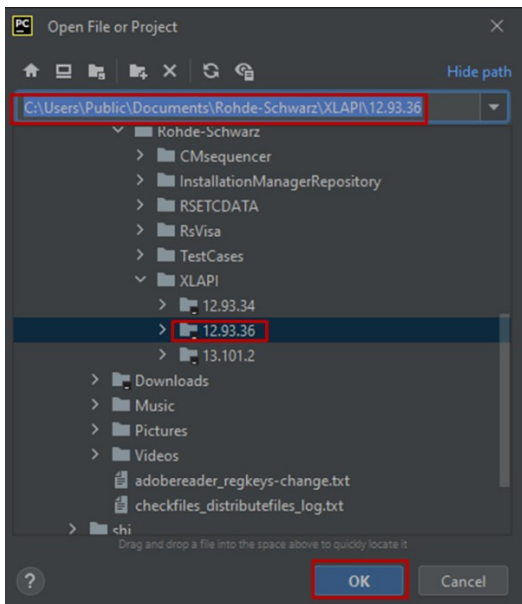

Figure 4-26 Select a project
- ▶ In the opened window, navigate to XLAPI installation folder `C:\Users\Public\Documents\Rohde-Schwarz\XLAPI\<XLAPI version>`, select the XLAPI version that intends to be opened (e.g. 12.93.36) and press 'OK' to proceed (Figure 4-26)